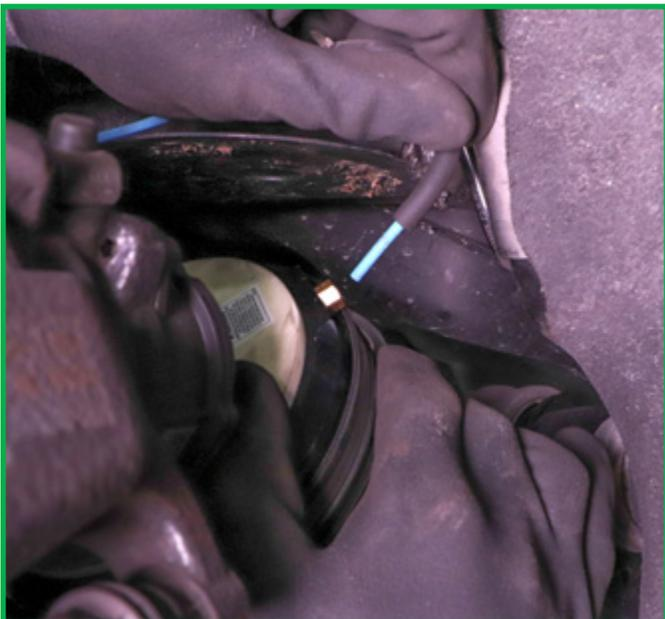

FIGURE 12
3. Install the air line, pushing inwards until fully seated. (Figures 12, 13)